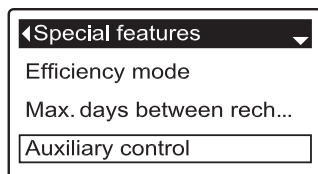

FIG. 73
1. From any of the rolling status screens, press the SELECT (O) button to display the **Main menu**.
3. Press the SELECT (O) button to display the Advanced settings menu.
5. Press the SELECT (O) button to display the Special features menu (See Figure 73).
9. Press the SELECT (O) button. The display will go back to the Special features menu (Figure 73).